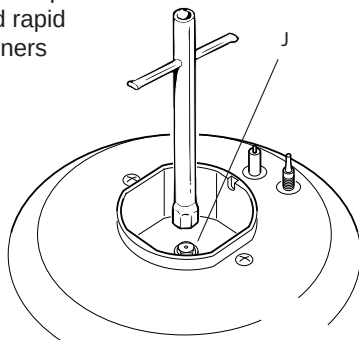

Fig. 2.2
- Using a wrench, substitute the nozzle injectors "J" (figs. 2.2, 2.3) with those most suitable for the kind of gas for which it is to be used.